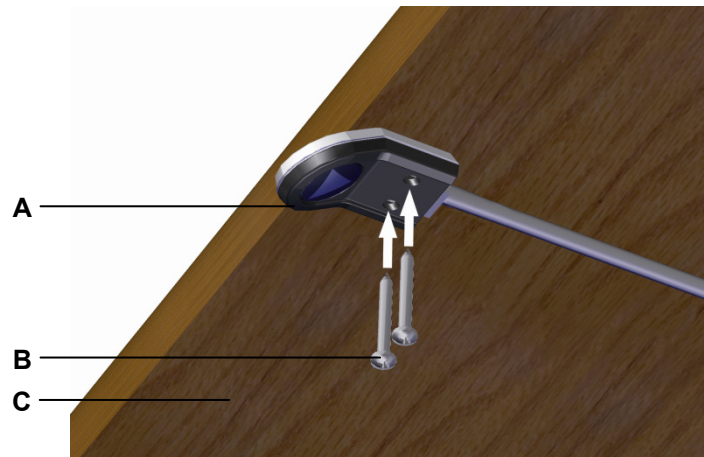

Figure 17 Example: Mounting the Motion Assist control keypad
Two screws are used to attach the Motion Assist control keypad to the underside of the table (at the table's front edge), as shown in Figure 17.
- Example: Use screws (B in Figure 17) which meet the requirements of DIN 7981 with \varnothing 3.9 mm and of suitable length (10 mm plus the screw-in depth into the table), screw head: \varnothing 7.5 mm.